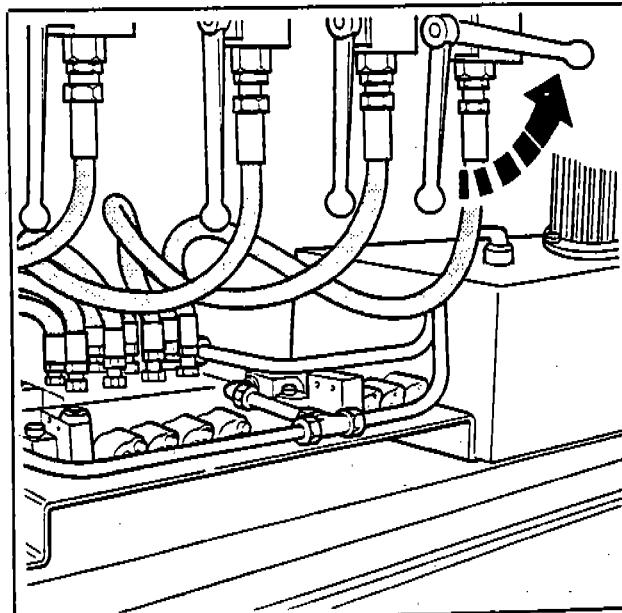

Fig. 7
**⚠** When the trailer is correctly positioned, shut off the hydraulic circuit with the handle as in Fig. 7, to avoid, some future incorrect operations.
**⚠** Ad operazioni di livellamento ultimate, chiudere il circuito idraulico azionando le leve (Fig. 7). Questo per evitare eventuali manovre errate sui stabilizzatori.
**⚠** Than: shut the hydraulic circuit off with the handles in Fig. 7 to avoid future incorrect operations.